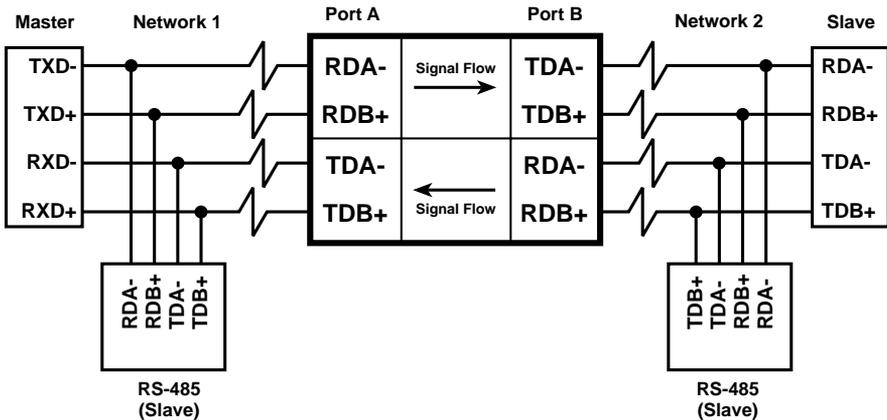

Fig. 3-6. Cabling and Signal Flow in Four-Wire, Full-Duplex Operation
1. To connect the Repeater to your network via the terminal blocks (TB1 and TB2), use unshielded twisted-pair cable. (Category 3, 4, or 5 cable is recommended.) Follow the 4-screw terminal-block pinning given in Table A-1 (in the **Appendix**) of this manual and refer to **Fig. 3-6** for proper cabling to make sure you connect each cable to the correct pin so the Repeater will communicate properly.
NOTE: As shown in Fig. 3-6, the Repeater is considered a slave device on the Network 1 side, but the master device on the Network 2 side: By repeating the signals sent from the master on Network 1, it looks like a master to the slave devices on Network 2. That's why on Network 2, the Repeater's data leads are matched up with those of the slave device, but on Network 1, its receive-data leads are attached to the slave's transmit leads, and its transmit-data leads are attached to the slave's receive leads.